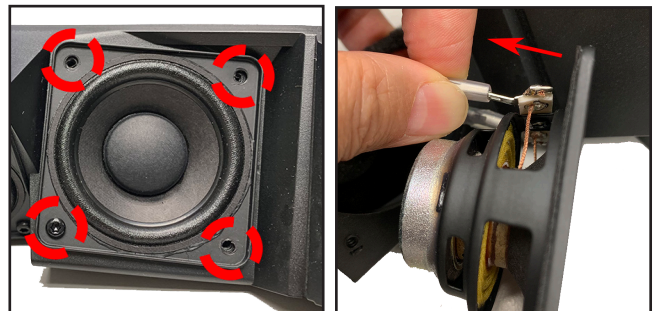

Figure 29. Driver Screws & Cable Removal
2.2 Remove the 4 screws securing the 1 Driver to the Baffle as indicated in Figure 29 (left).
2.3 Detach the Driver's cable by pressing the white fastener. Figure 29 (right).